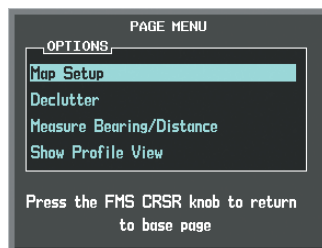

Figure 6-82 Navigation Map Page Menu
- 3) With Map Setup highlighted, press the **ENT** Key (Figure 6-82).